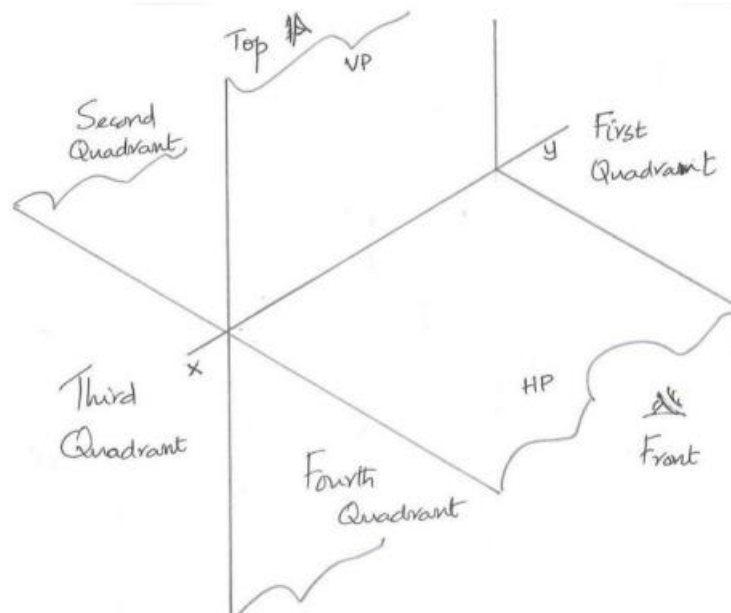

Figure 5.1 Principal Planes and Quadrants
Horizontal and Vertical planes are the principal planes used in orthographic projections (refer Figure 5.1).
The line of intersection of Horizontal plane (HP) and Vertical plane (VP) is the main reference line, x-y (refer Figure 5.1).